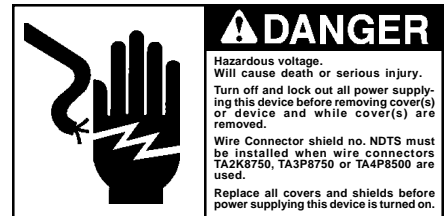

**Fig. 2**
**Step 5.** Repositioning of the accessory wires through the accessory wire guide **may** be necessary to insure proper routing of the wires when the accessory is installed (see fig. 3). The wires should be positioned, if **necessary**, through the wire guide so that the wires will all be on the side of the accessory that corresponds to the closest device wire-way guide (refer to figs. 2 & 3).
**Step 6.** Feed the accessory leads down through the rectangular wire guide (see fig. 2) to bring the leads out the bottom of the device. The alarm switch accessory requires the actuator M to be inserted below the top edge of the center trip unit opening (J, fig. 3) as it is being placed into position.
The accessory is then positioned by gently pulling the wire leads and aligning the "E" groove (fig. 3) and "F" tang (fig. 2) on the accessory, with the "D" ledge on the trip unit and the "G" cavity on the line cover. Do not force accessory into place. Damage to actuator could result. Be sure actuator is properly placed on trip unit.